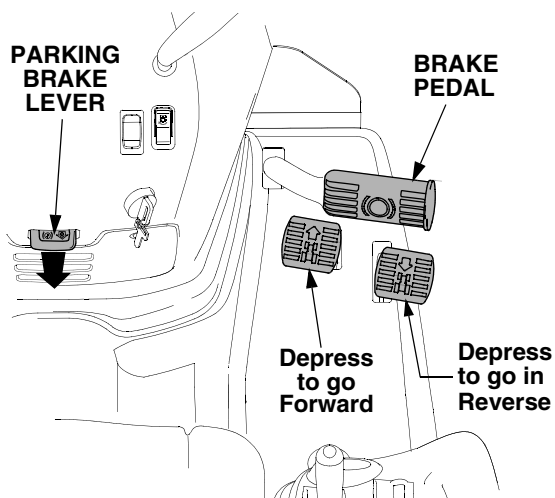

Figure 15
- Fully depress the brake pedal to bring the tractor to a complete stop. Push downward on the parking brake lever and release the pedal to engage the parking brake. Refer to Figure 15.
- To move forward, slowly depress the forward control pedal (See Figure 15) until the desired speed is achieved. The speed of the tractor is directly related to the distance the pedal is depressed.
- To move in reverse, check that the area behind is clear then slowly depress the reverse control pedal. Continue looking rearward when traveling in the reverse direction. See Figure 15.